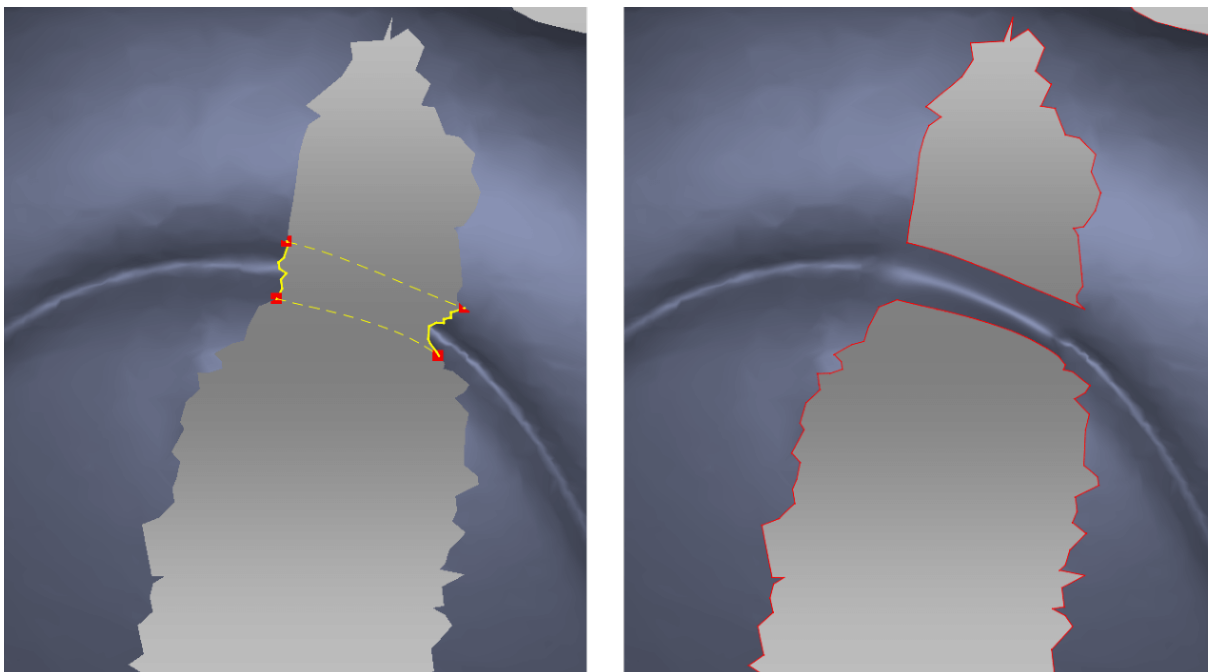

Figure 102: Specifying fragments. Correct fragments can resolve original geometry.
2. Specify two opposite fragments³ between which a bridge will go (Figure 102). There are two ways to do this:
Preserve the original geometry (Figure 102)	Clear the Smooth edges first checkbox